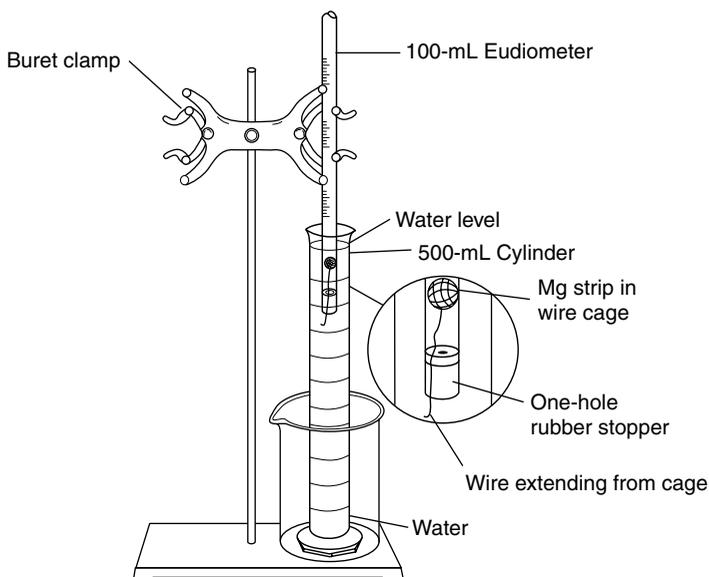

Figure 16.1
- in your cage, or pieces of magnesium will escape during the reaction. Leave a 10- to 12-cm piece of wire extending from the cage (see Figure 16.1).
- F. Place your finger over the hole of the stopper, invert the eudiometer, and quickly lower it into the water-filled cylinder. When the stopper is beneath the surface of the water, remove your finger. Move the eudiometer and cylinder to a clamp mounted on a ring stand, as shown in Figure 16.1; a buret clamp is ideal for this purpose.